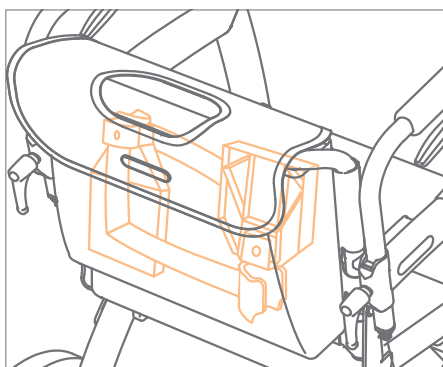

Figure 50: Storing footrests mirrored.
- Remove the footrests from the frame. Slide the footrests up until they are released from the footrest holders. Place them back into the bag of the Rollz wheelchair package, mirroring them to each other (**Figure 50**).